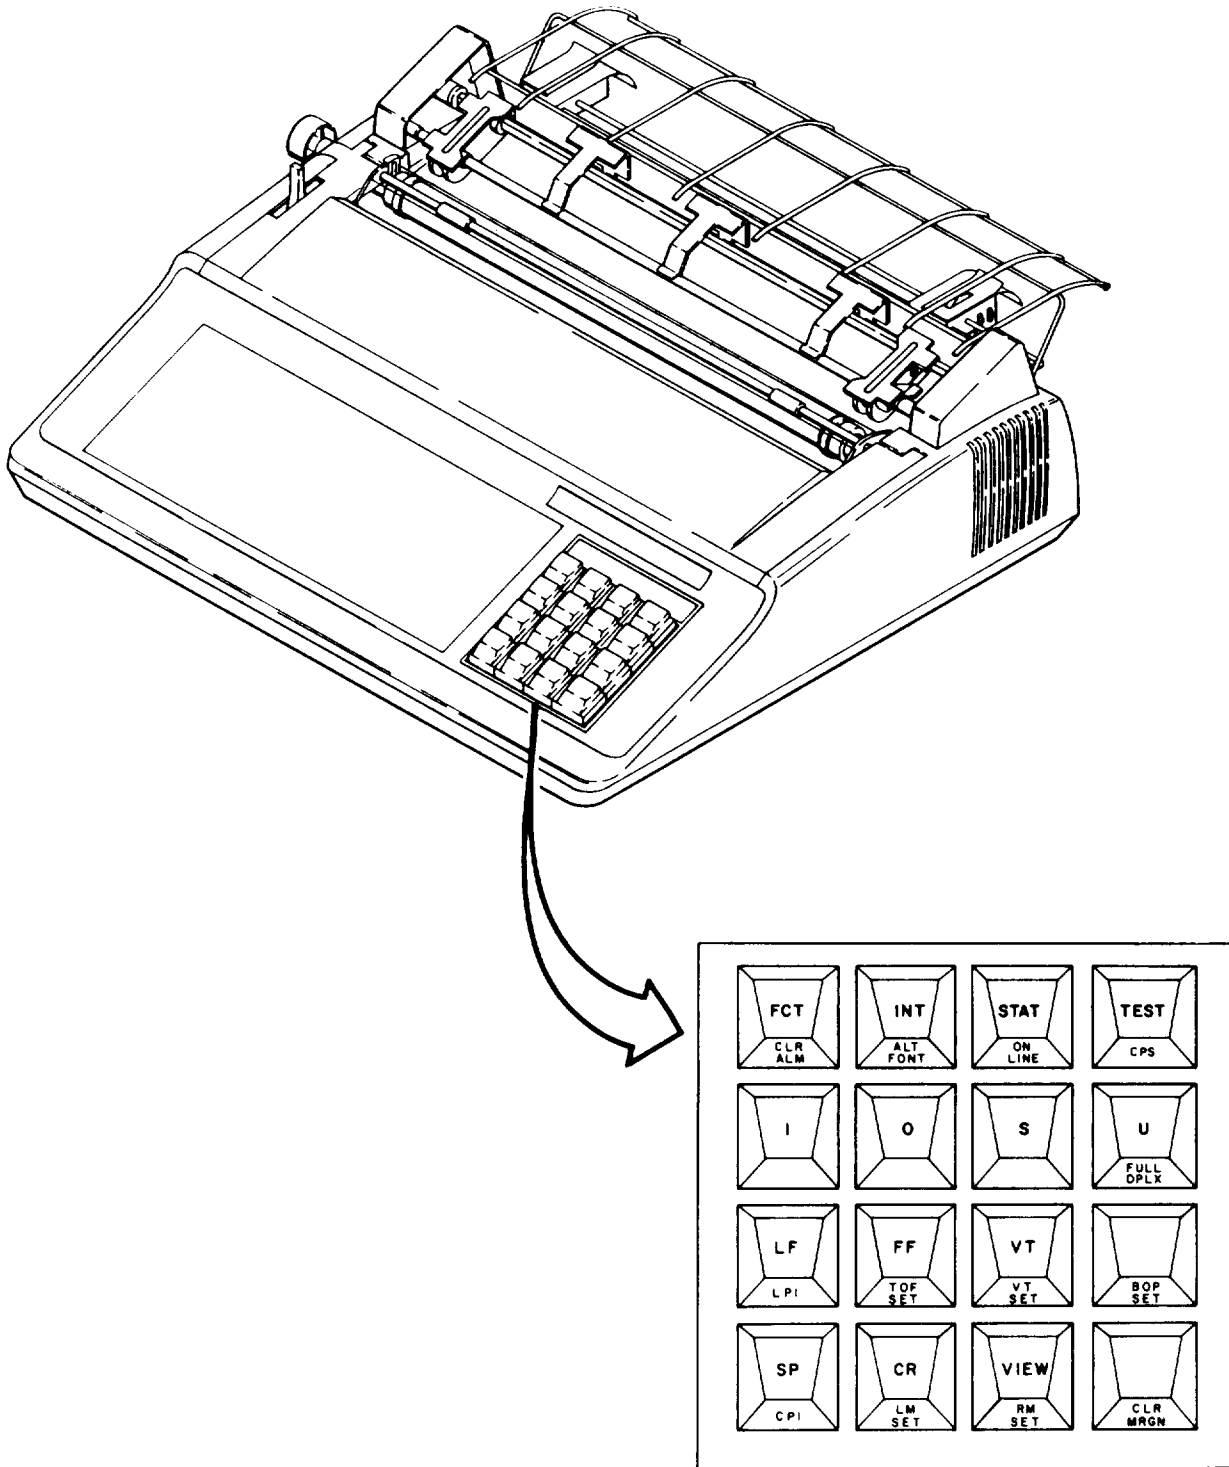

Figure 1-5. Control Panel
e. Control Panel. The control panel (fig. 1-5) is an alphanumeric cluster of 16 keys on the T3NC circuit board and allows operator control of basic printer functions.